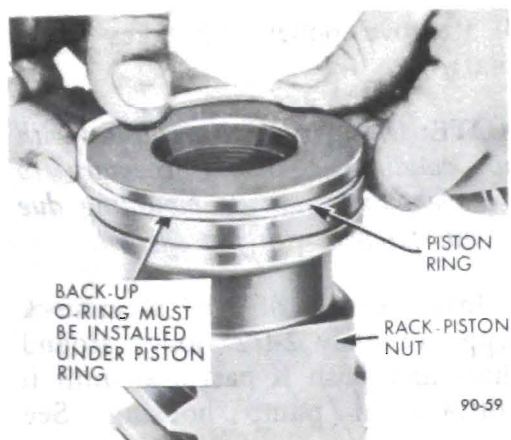

Figure 90-71 Installing Rack-Piston Ring on Rack-Piston Nut
2. Install new piston ring back-up "O" ring in groove on rack-piston nut. Place a new piston ring over the back-up "O" ring. See Figure 90-71.